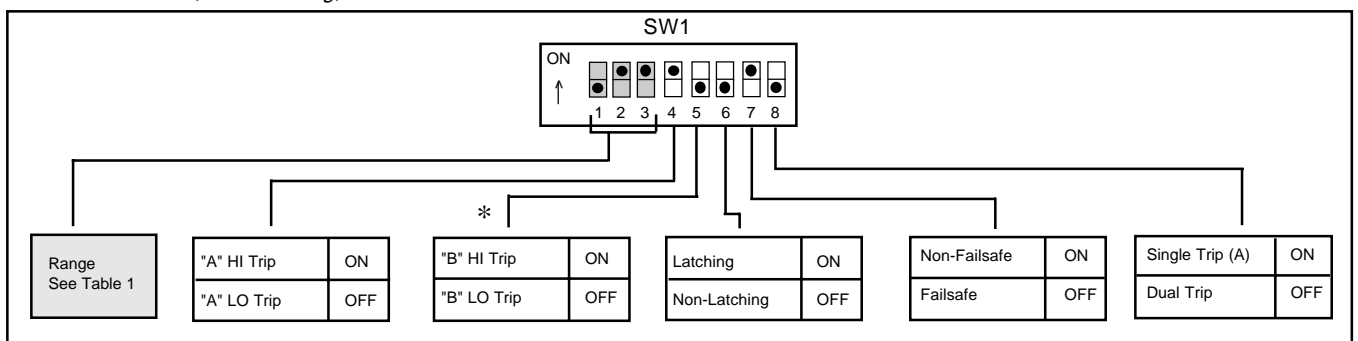

Figure 5: Mode Selection; Dual Trip/A: HI, B: LO, Non-Latching, Non-Failsafe
1. Configure positions 4 through 8 of SW1 for the desired alarm functions. See Figure 5.